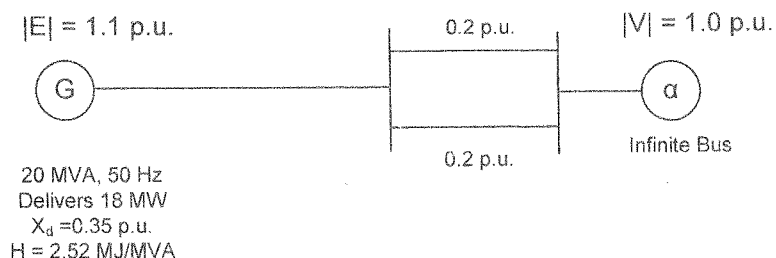

Figure Q3
- b) A 20 MVA, 50 Hz generator delivers 18 MW over a double circuit line to an infinite bus as shown in Figure Q3. The generator has kinetic energy of 2.52 MJ / MVA at rated speed and its transient reactance ( $X_d$ ) is 0.35 per unit. Each transmission line has a reactance of 0.2 per unit on a 20 MVA base. Infinite bus voltage (V) is 1.0 per unit. A three phase fault occurs at the mid-point of one of the transmission lines. Obtain the swing curve over a period of 0.2 seconds for a sustained fault.